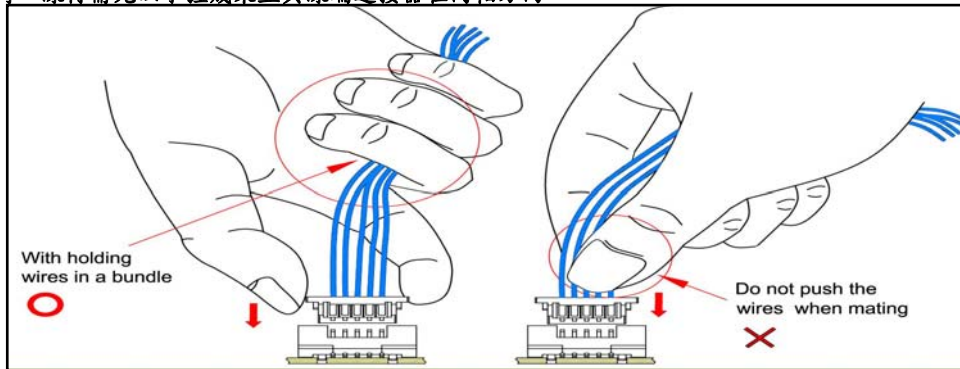

figure 3.3
- 3.3 Make allowance so that the power of more than the tension by bending the Wire is not applied to the connector when handling the wire. In mating operation, mate a connector with holding wires in a bundle on the same axis to mating axis. (see figure 3.3)